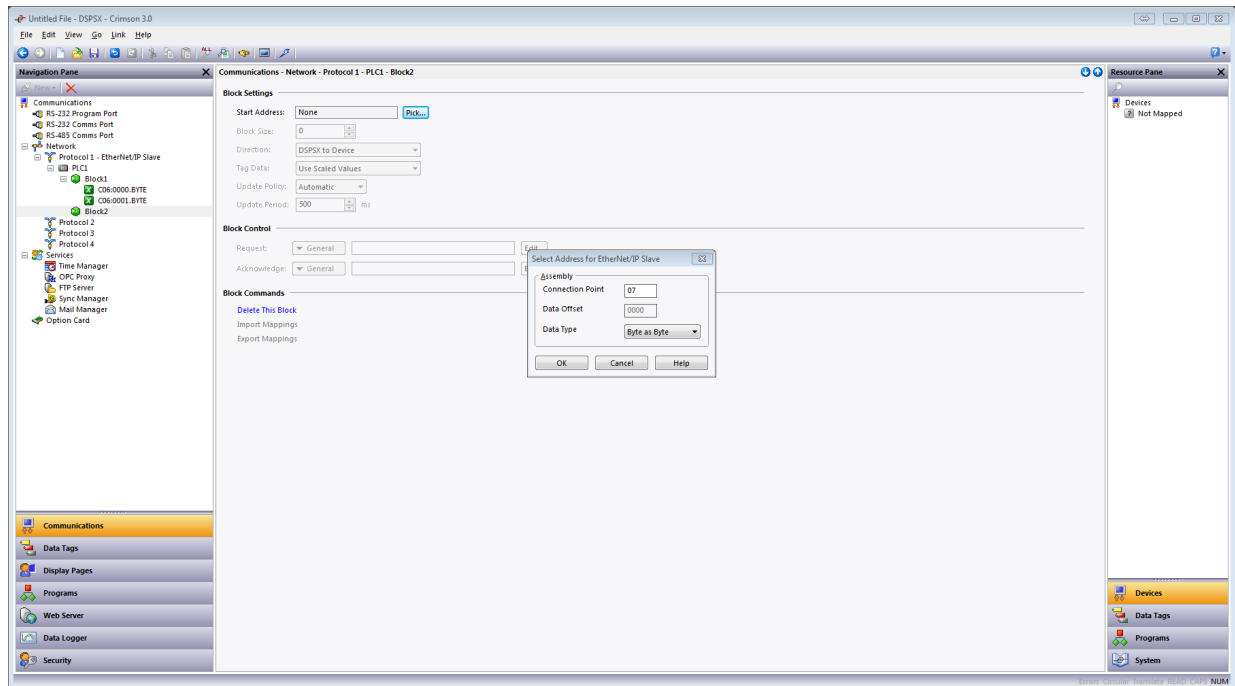

Figure 8.
1. Referring to Figure 8, go to the Navigation Pane and select *Block2*; the Communications - Network - Protocol 1 - Block2 popup appears. Configure Block 2 as a Write block by performing the following: